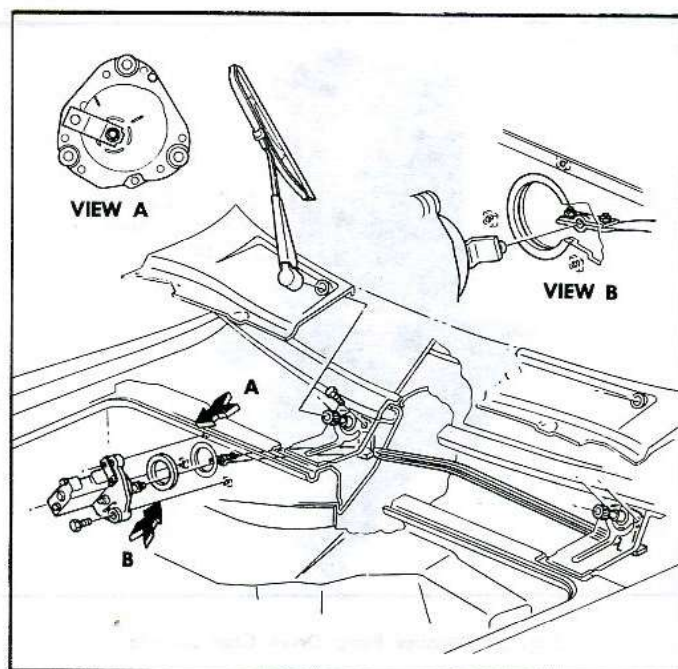

Fig. 29—Windshield Wiper Assembly
REMOVAL AND INSTALLATION (Fig. 29)
3. Loosen nuts retaining drive link to crank arm ball joint and disconnect drive link from crank arm (View B, fig. 29).
WIPER MOTOR ASSEMBLY REMOVAL AND INSTALLATION (Fig. 29)
4. Loosen nuts retaining drive arm to crank arm ball stud (View B, fig. 29).